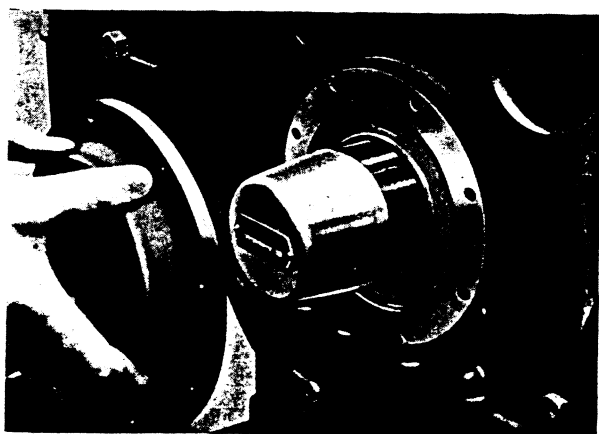

FIG. 156.
8. Slide rear oil seal and cover assembly on to spigot of crankshaft, using Service Tool FT.105A/1, well oiled, as guide to prevent damaging the seal. See Fig. 156.